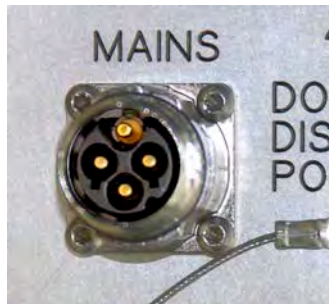

figure 4-15 Mains power connector
7. Unscrew the protective cover from the Mains connector of the EU (figure 4-15).